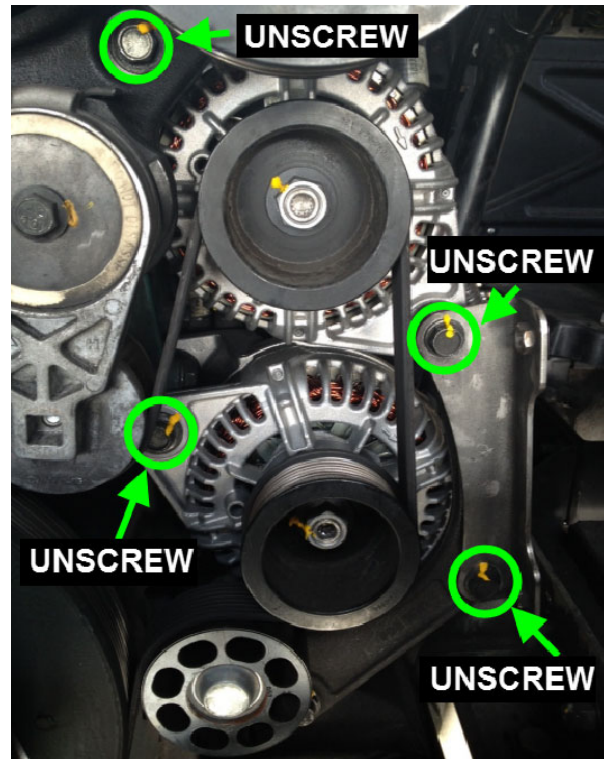

FIGURE 3
5. Remove the existing alternators. To do so, unscrew identified mounting bolts on FIGURE 3 and retain for reuse if in good condition.